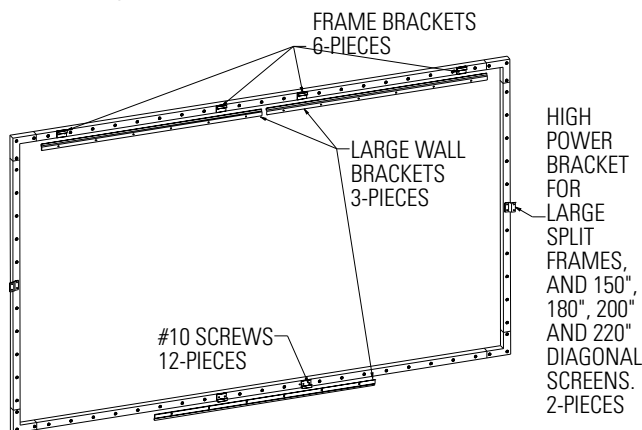

FIGURE 8
1. Use the supplied #10 screws to attach six frame brackets to the back of the frame as shown in Figure 8.
4. For 150", 180", 200", 220" and larger screens with 2-piece side frame rails you will need to attach one High Power bracket to each side frame rail. Use the black #10 screws supplied. See Figure 8.